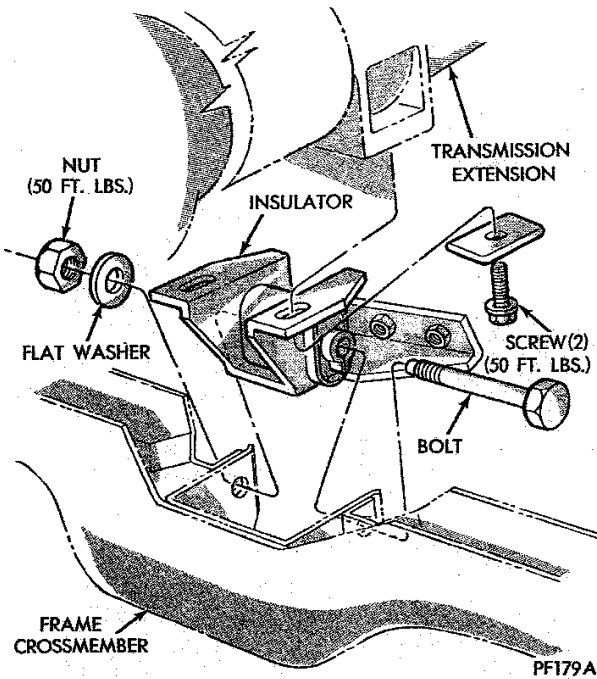
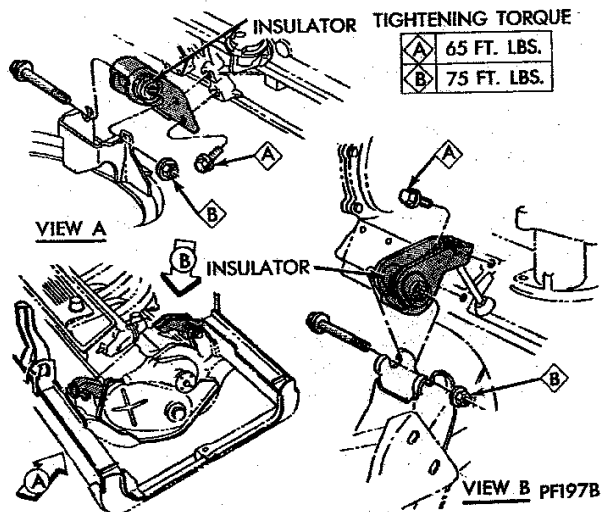

Fig. 2—Engine Rear Mount H,N,F and G
Fig. 4—Engine Front Mounts (225) H,N,F,G,R and W
- (3) Remove radiator and heater hoses and remove radiator.
- (4) Remove closed ventilation system and evaporation control system from cylinder head cover.
- (5) Disconnect fuel lines, carburetor linkage and wiring to engine.
- (6) Disconnect exhaust pipe at manifold.
- (7) Raise vehicle on a hoist.
- (8) Drain converter housing and transmission. Remove oil cooler lines, filler tube and linkage.
- (9) Remove clutch torque shaft and rods.
- (10) Remove speedometer cable and gear shift rods.
- (11) Disconnect propeller shaft and remove.
- (12) Install engine support fixture Tool C-3487A and leg C-3806 to support rear of engine.
- (13) Remove engine rear support crossmember (Figs. 2 or 3).
- (14) Remove transmission bolts from clutch housing.
- (15) Remove transmission.
- (16) Lower vehicle.
- (17) Install engine lifting fixture to cylinder head and attach a chain hoist to fixture eyebolt.
- (18) Remove engine support fixture.
- (19) Remove engine front mount bolts (Fig. 4).
- (20) Lift engine from engine compartment and install in engine repair stand.
- (1) Install engine lifting fixture and attach a chain hoist to fixture eyebolt.
- (2) Lower engine into engine compartment until front of engine is positioned on engine front mounts.
- (3) Install engine front mount bolts. **Do not tighten.**
- (4) Install engine support fixture Tool C-3487A and leg C-3806.
- (5) Remove chain hoist and engine lifting fixture.
- (6) Raise vehicle on a hoist.
- (7) Position rear of engine and install transmission.
- (8) Install crossmember to frame. Lower transmission to install engine rear support to extension and crossmember. Tighten to specifications as noted (Figs. 2 or 3).
- (9) Connect propeller shaft at transmission.
- (10) Install speedometer cable and gear shift rods.
- (11) Install clutch torque shaft, brake cables and rods.
- (12) Install cooler lines, and transmission filler tube.